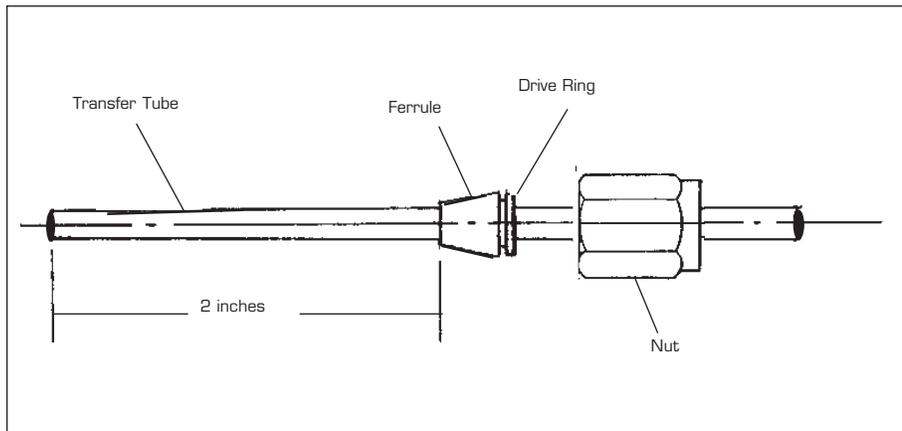

Figure D.2
2. Swage the ferrule, then cut the end of the transfer tube off so that two inches of the tube projects beyond the ferrule. See Figure D.2 below